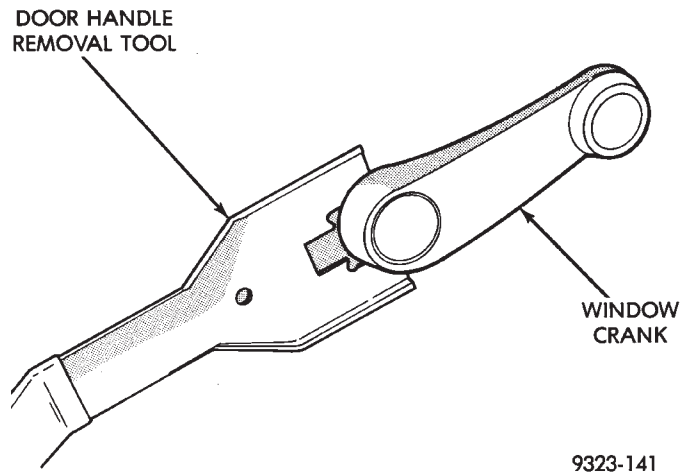

Fig. 12 Window Crank
- (1) Using a door handle removal tool, disengage clip holding window crank to regulator and separate crank from door, if equipped (Fig. 12).